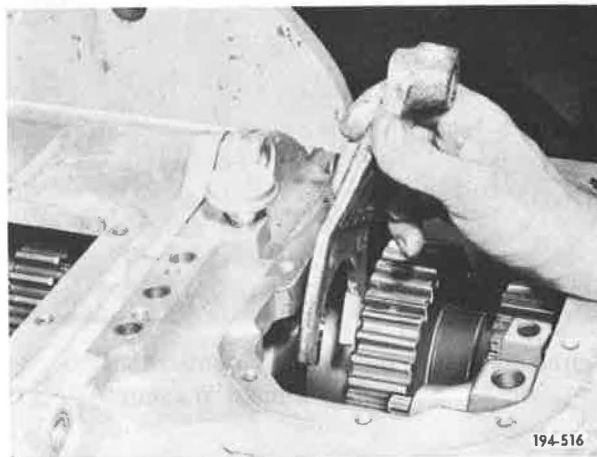

Figure 5-650. Installing Second and Third Speed Shifter Fork
3. Install second and third speed shifter fork on second and third speed sliding clutch. See Figure 5-650.